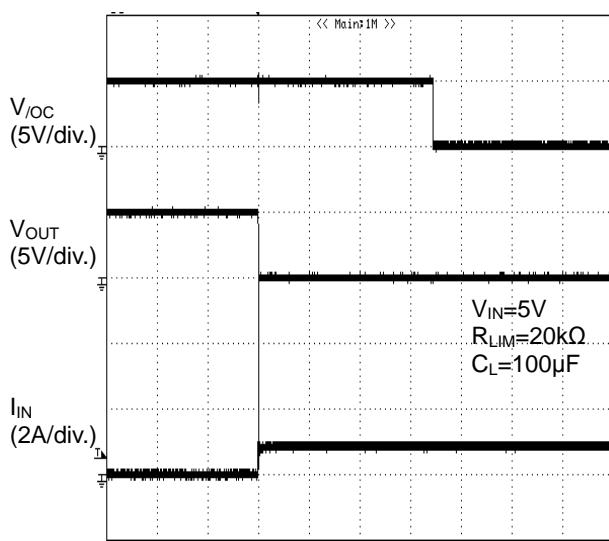

Figure 48. Over Current Response
(2). When the output short-circuits or when high current load is connected while the switch is on, very large current flows until the over current limit circuit reacts. When this happens, the over-current limit circuit is activated and the current limitation is carried out. (See figure 48,49.)